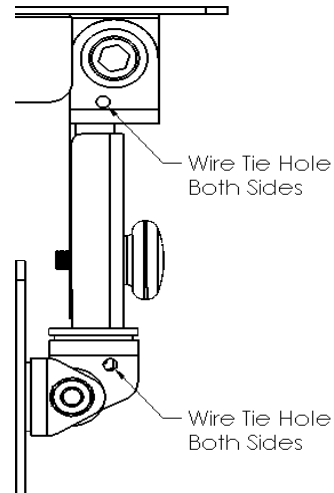

Figure 1. Tie-Wrap Anchor Holes
1. Route power/audio/video cables, allowing sufficient slack in cables for extension, and secure using two tie-wraps (provided) through anchor holes in mount (see Figure 1).